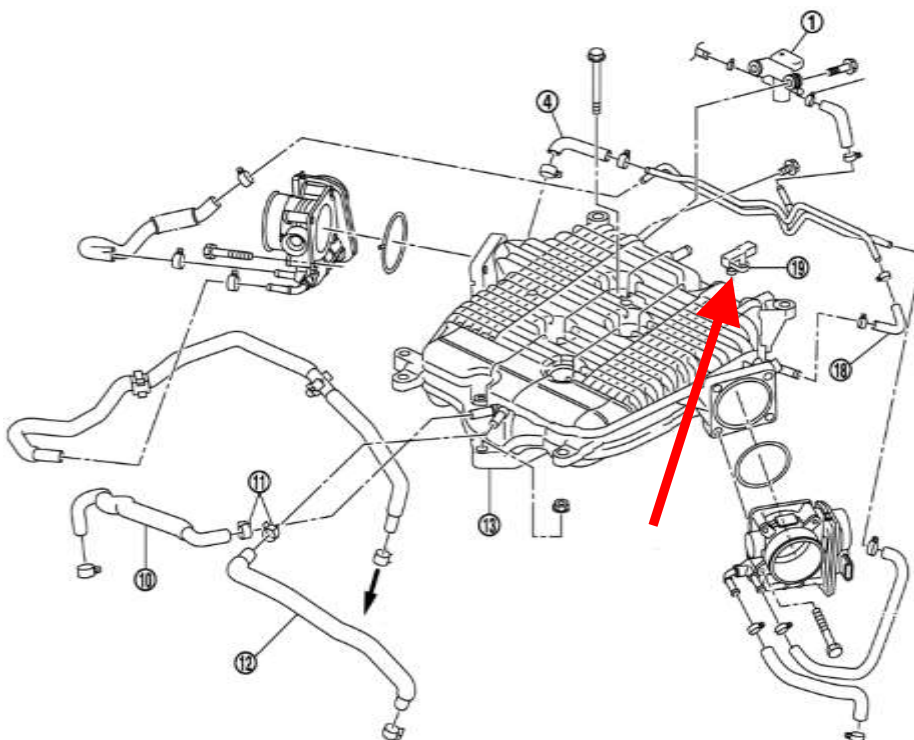

Figure 55
12. If purchased, locate the OMNI 4-bar Map Sensor (#53). The Map Sensor is not included in our "Tuner" kit but is in our Complete Kit. The OEM Map Sensor is located in the top right corner of the upper intake plenum (shown in *Figure 55* below). Disconnect the electrical connector, remove the mounting screw, and then pull up to remove the sensor from the plenum. Install the new OMNI 4-bar sensor in the plenum. Secure with the OEM mounting bolt and reconnect the electrical connector.